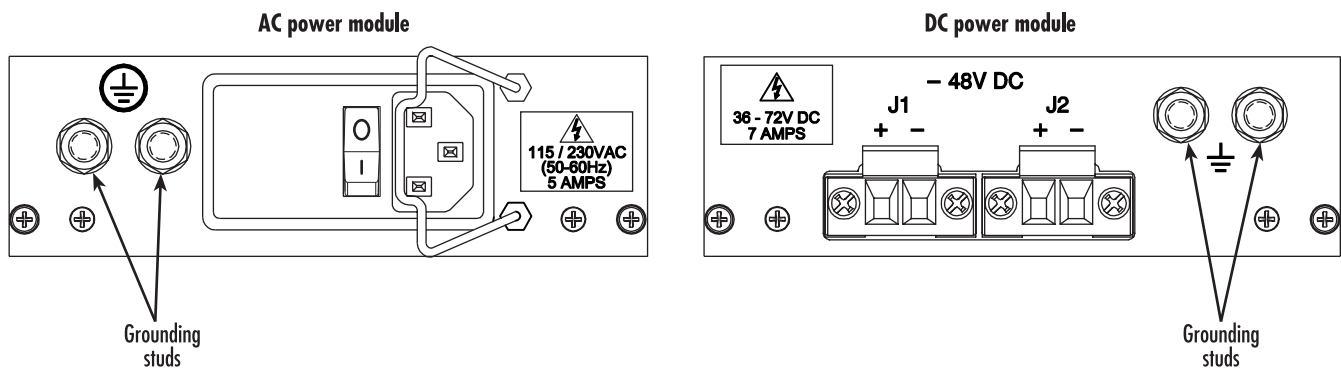

Figure 11. AC power module and DC power module grounding studs locations
1. Inspect the rack chassis grounding studs on the AC power module or DC power module (see figure 11 for studs locations) to ensure a #12 AWG ground wire is attached.